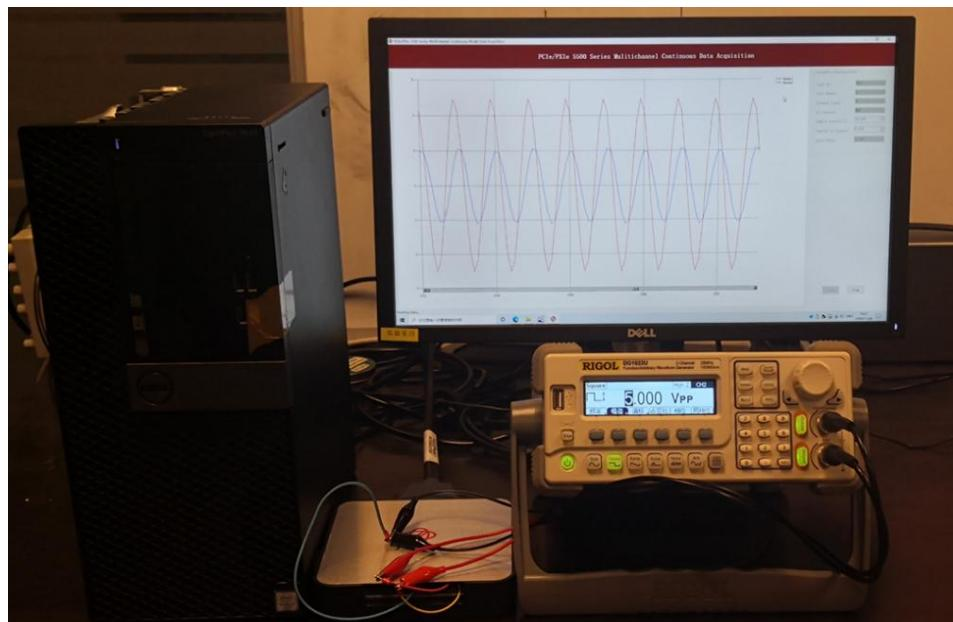
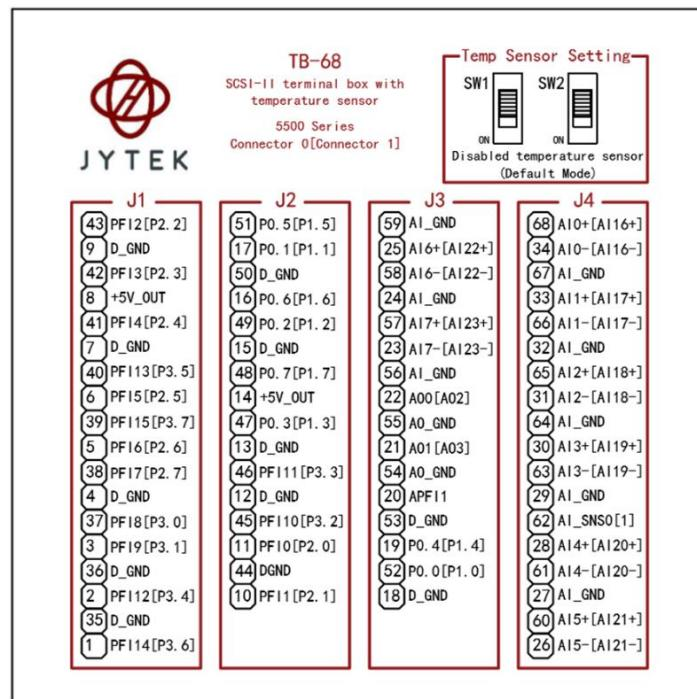

Figure 3 PCIe-5111 experiment
Figure 4 TB-68 Terminal Block
- Connect the two signal source's positive outputs to PCIe-5111 AI Ch0 (AI0+, Pin #68) and AI Ch1 (AI1+, Pin#33), two negative terminals to the ground (AI_GND, Pin#67) as shown in Figure 3 and Figure 4 (AI0+, AI_GND) and (AI1+, AI_GND) consist of two channels of RSE inputs and they share the same GND.
- Connect the two signal source's positive outputs to PCIe-5111 AI Ch0 (AI0+, Pin #68) and AI Ch1 (AI1+, Pin#33), two negative terminals to AI Ch0 negative (AI0-, Pin#34) and AI Ch1 negative (AI1-, Pin#66) as shown in Figure 3 and Figure 4. (AI0+, AI0-) and (AI1+, AI1-) consist of two pairs of DIFF inputs;
- Connect the signal source's positive terminal to PCIe-5111 AI Ch0 (AI0+, Pin#68), the negative terminal to the ground (AI_GND, Pin#67) as shown in Figure 3 and Figure 4. (AI0+, AI_GND) consists of a RSE input.